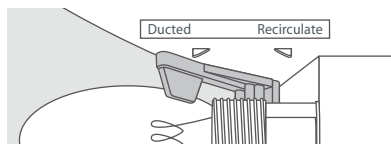

Fig.8 Lever set to external ducting position.
- 2 Locate the lever positioned on the motor casing above the left hand light fitting (fig.8).